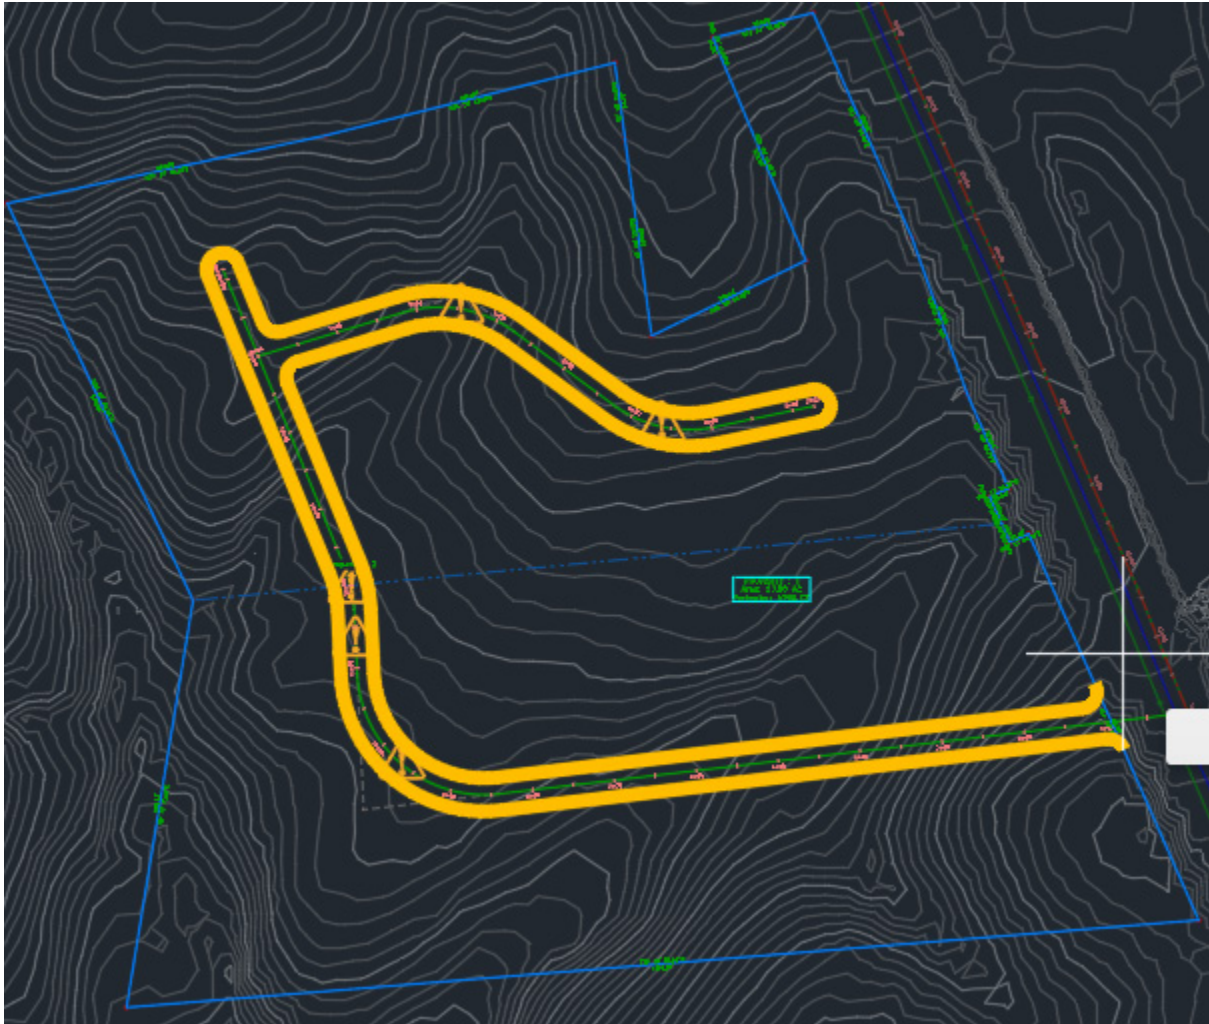
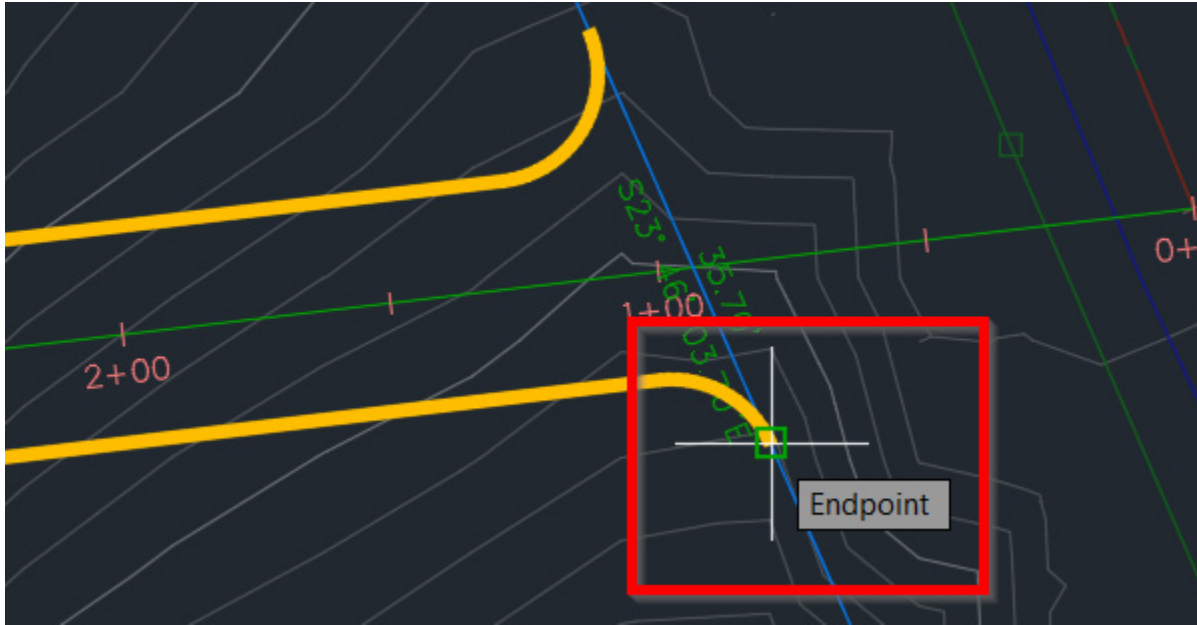

Figure 9.17 - Defining path of street frontage
Figure 9.18 – Snapping to the endpoint of our right-of-way parcel
Before snapping directly to the southern endpoint, we'll need to drag our mouse from right to left along the entire length of our right-of-way parcel to ensure that we are defining the full path, which will be recognized as street frontage in our automatic parcel creation process, as shown in *Figure 9.17*:
3. Once our path has been highlighted as shown in *Figure 9.17*, we'll then want to snap to the endpoint of our right-of-way parcel, this time on the south side, closest to York Highway, as shown in *Figure 9.18*: